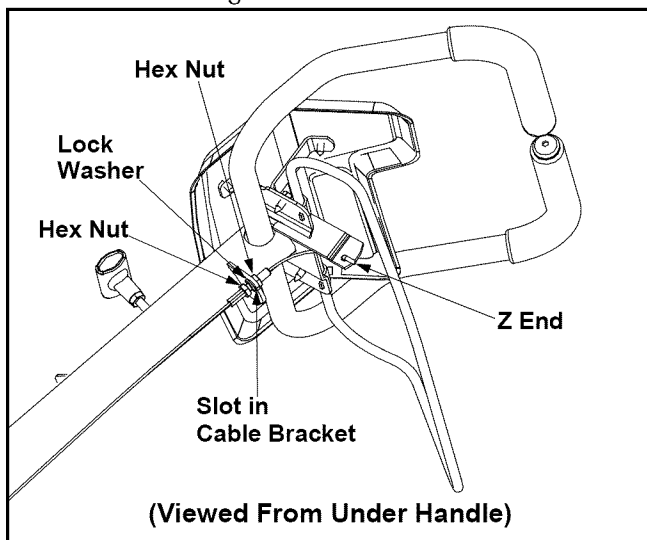

Figure 8
- Pull the cable upwards to obtain slack and hook the Z end of the cable from right to left into the bracket on the clutch control (beneath the handle panel). Tighten the nut against the cable bracket. See Figure 8.
- **If the belt turns with the unit in neutral**, adjust by moving the hex nut below the cable bracket **down** a few turns. Tighten the upper hex nut against the bracket. See Figure 8.